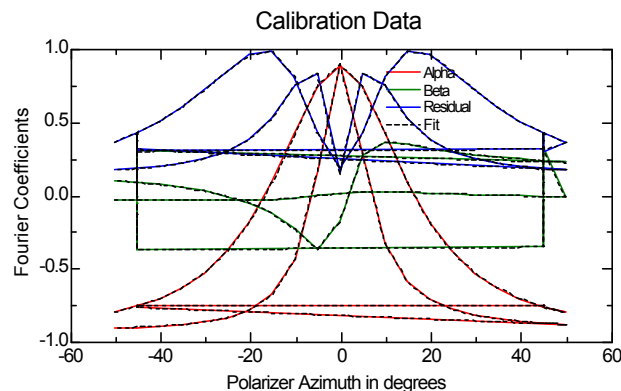

Figure 4. Calibration Graph
- c. When the calibration is complete the graph window will appear similar to Figure 4.